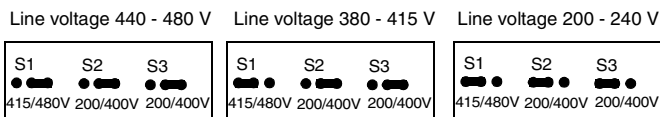
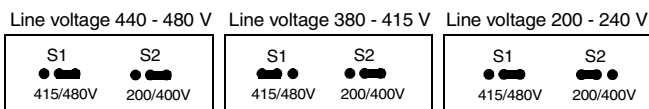

Figure 5 Voltage range selection with jumpers, models A, B and F.
Figure 6 Voltage range selection with jumpers, models C, D and E.
- B** Select the voltage range using jumpers according to the nominal AC line voltage supplied to the frequency converter. Jumper settings according to line voltages are given in Figure 5 and Figure 6. The factory default setting is 440 - 480 V.